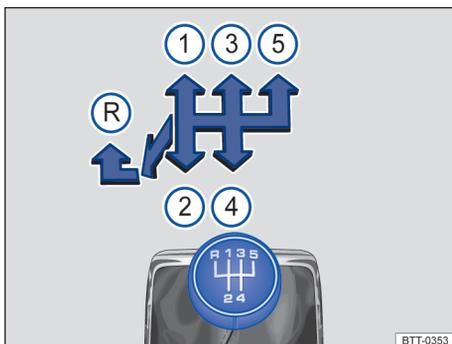
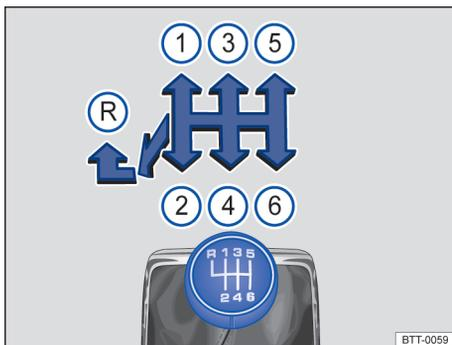

Fig. 94 Gear shift pattern of a 5-speed manual gearbox.
Fig. 95 Gear shift pattern of a 6-speed manual gearbox.
Each gear position is illustrated on the gear lever → Fig. 94 and → Fig. 95.
- Push the gear lever fully to the left and then to the front into the reverse gear position → Fig. 94 and → Fig. 95 (R).